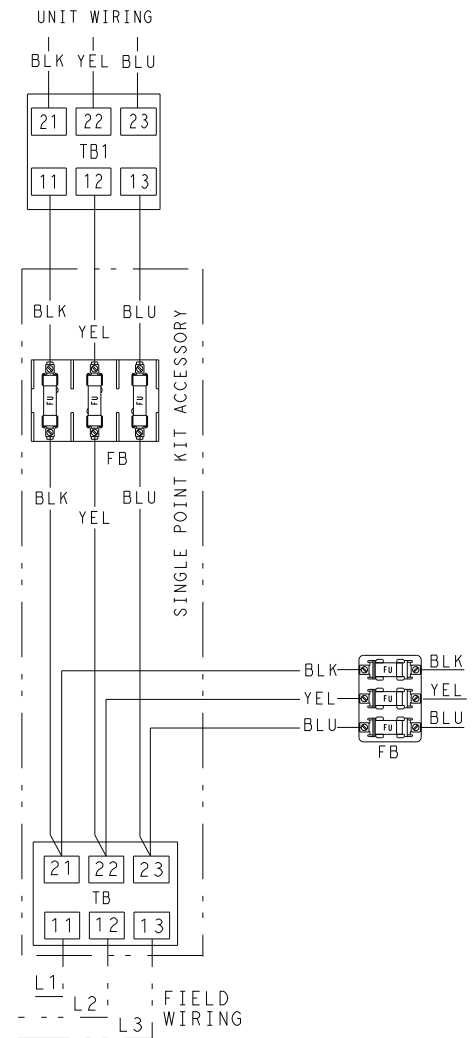

Fig. 52 — Wiring Diagram for Single Point Kit Accessory When Required
7. To be used with Standard SCCR (5ka) Units Only. Refer to Fig. 52 for wiring single point kit accessory when required. Using three 1/4-20 nuts, connect power wires to the load side of terminal block.